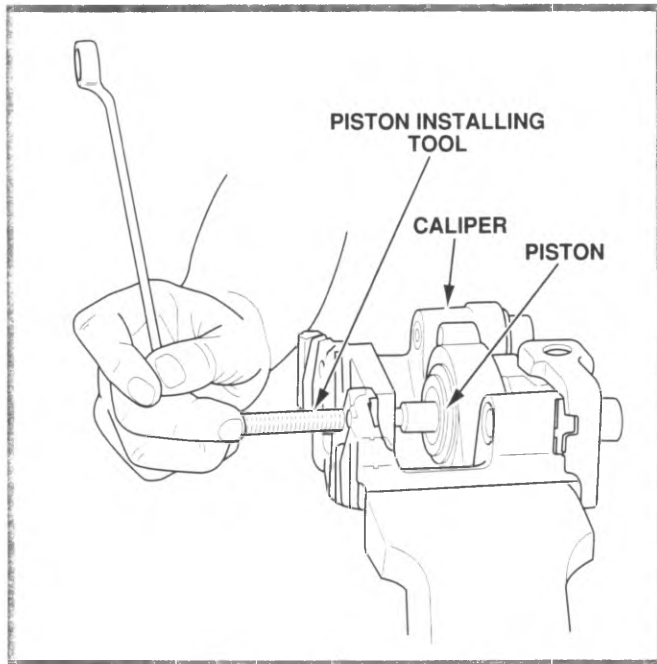

Figure 6-42, Reinstall Piston
7. Position balance spring in the piston recess and start the piston into the caliper bore. Use the appropriate piston installation tool (figure 6-42).